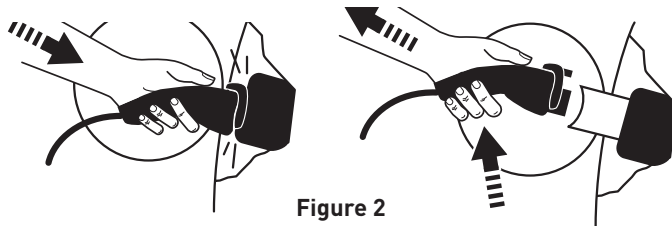

Figure 2
- To stop charging, disconnect the vehicle plug and place it back in the charging station (**Figure 2**).